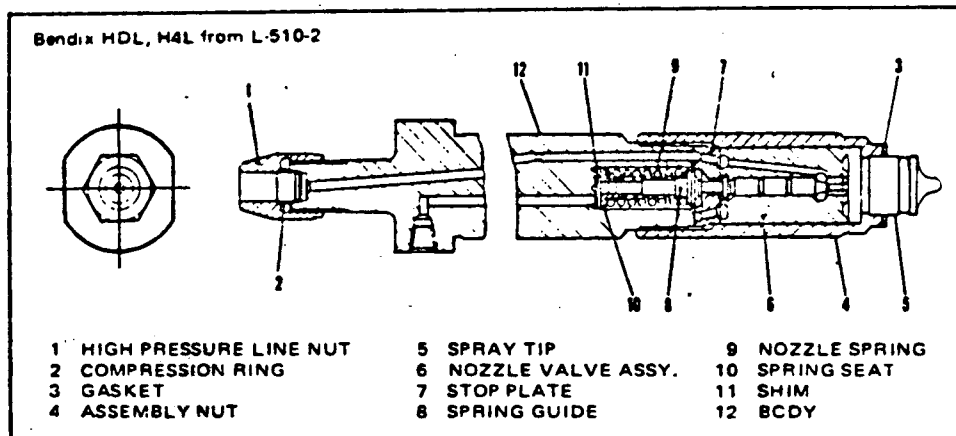

Figure 6-F-1. Sectional View of Typical Nozzle and Holder Assembly
- (1) Apply pressure and check nozzle valve for popping action. The valve should chatter if it is seating properly.
- (2) Raise pressure slowly to determine pressure at which valve opens. The valve should open at 3000 psi (211 kg-cm²) pressure. The opening pressure is adjusted by means of shims in the valve assembly, requiring disassembly of the unit. See figure 6-F-1 and "Nozzle Adjustment" instructions.
- (3) Dry off spray tip and raise pressure to within 100 psi of the opening pressure and observe tip for dribbling of fuel.
- (4) Check to see if any spray tip holes are plugged.
- (5) Place a clean piece of paper under nozzle tip and check spray pattern for uniform density and a symmetrical pattern.
- (6) Nozzles that fail to perform satisfactorily should be repaired or replaced. Refer to manufacturer's instructions in the *Associated Publications Manual* for overhaul instructions.
NOZZLE ADJUSTMENT (See Figure 6-F-1).